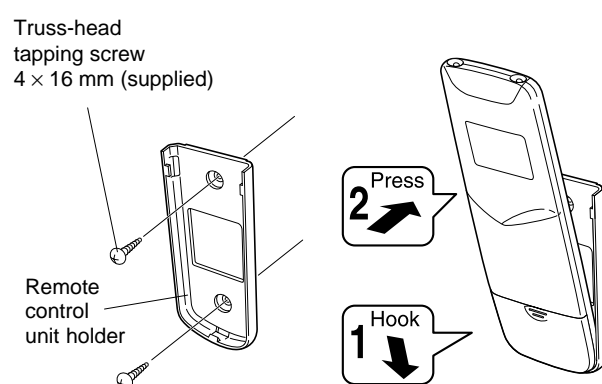

Fig. 32
- 1) Confirm the indoor unit beeps when the ON/OFF button is pressed at the wall location where the remote control unit is to be attached, then attach the holder to the wall. (Fig. 32)